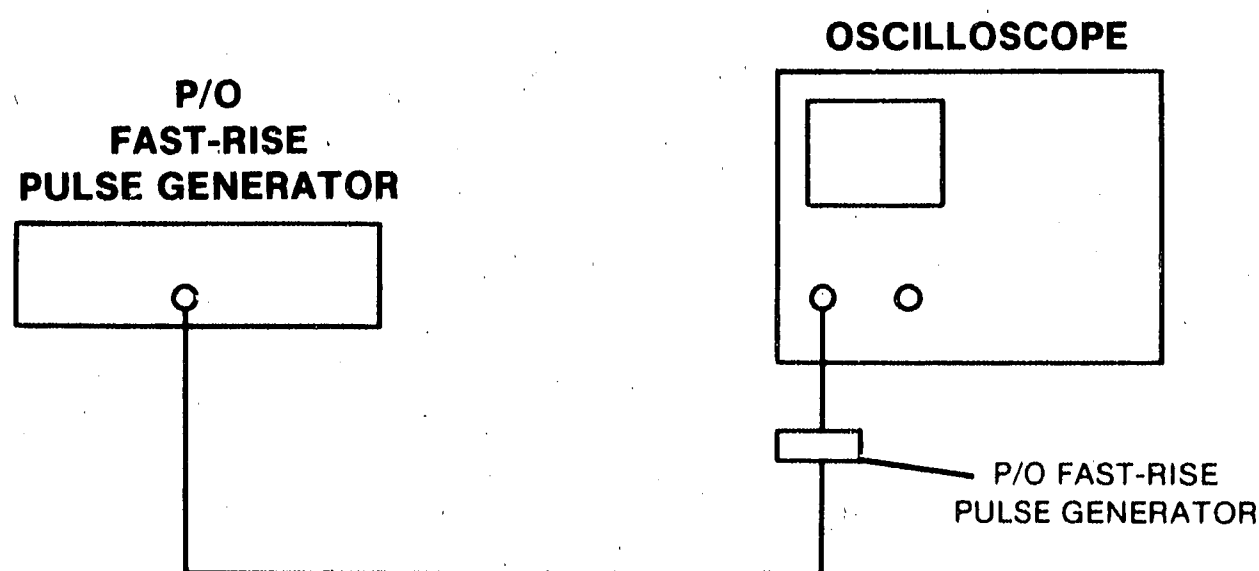

Figure 4-8. Rise Time Test Setup
- a. Connect equipment as shown in figure 4-8.